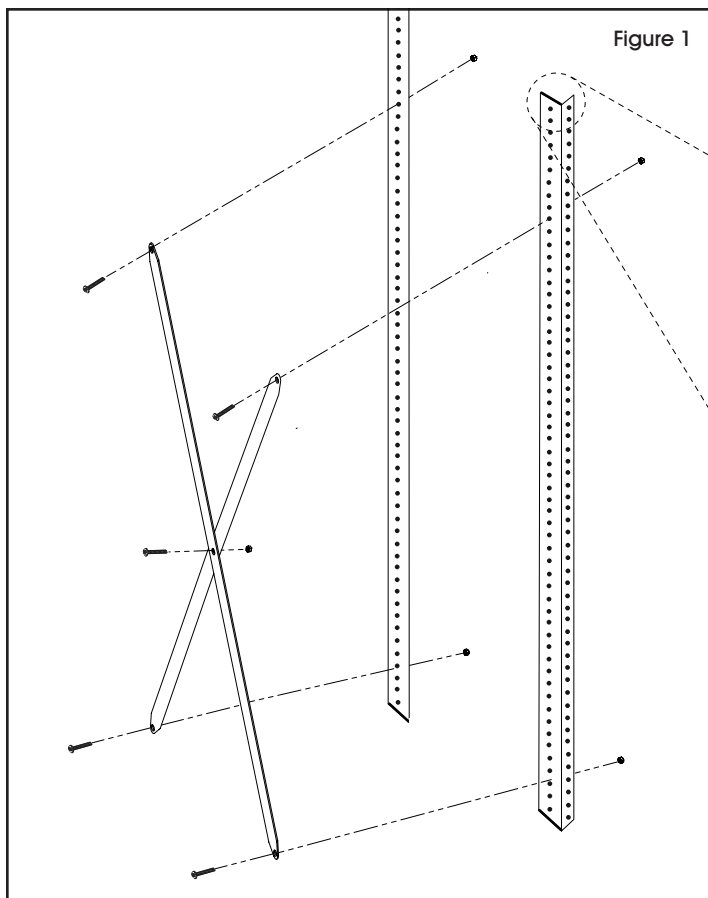

Figure 1
1. Install side braces: For 12" deep unit (H-2510), on the longer side of the posts, counting from the bottom up, locate the 4th hole and counting from the top down, locate the 3rd hole. Insert bolts through side braces and posts. Tighten bolts with nuts. (See Figure 1)